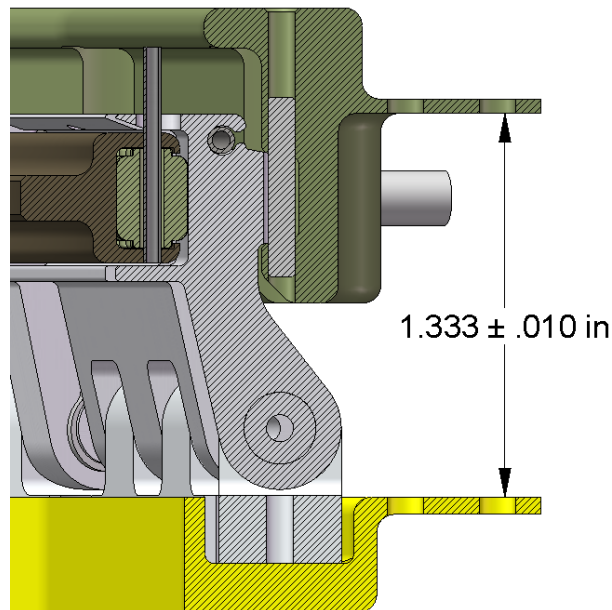

Figure 8-9: Lightband pre-Stow distance
8.1.15	<p>Once the minimum compressive force has been applied, verify the Lightband is properly compressed. Figure 8-9 shows a cross section of the Stowed Lightband.</p> <ul style="list-style-type: none"> • Verify the pre-Stow flange distance in at least 6 locations evenly spaced around the Lightband. • If any measurement is not in specification, verify proper alignment and compressive force. <ul style="list-style-type: none"> ○ The force center may need to be translated slightly to better align with the Separation Springs' net center of force. • Increase compressive force as necessary, up to the maximum allowable per Step 8.1.14, until all measurements are in specification